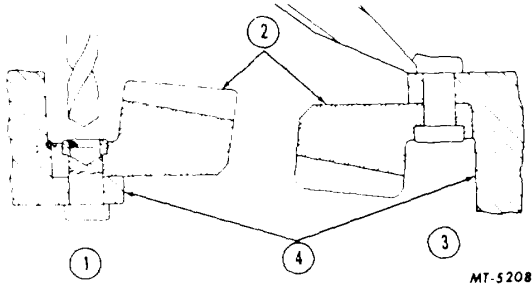

Fig. 19. Drive Gear Rivet Removal
- 1 Thrust Washer (2)
- 3 Spider Gears (4)
- 5 Thrust Washers (4)
- 6 Side Gears (2)
- If necessary to remove ring gear from diff case, carefully center punch each rivet head on the ring gear side and drill through the rivet head with a drill 0.8 mm (1/32") smaller than the rivet body (Fig. 19). Use a punch to press out the remaining portion of rivet. Never use a chisel to cut off rivet heads as damage to the diff case might result.